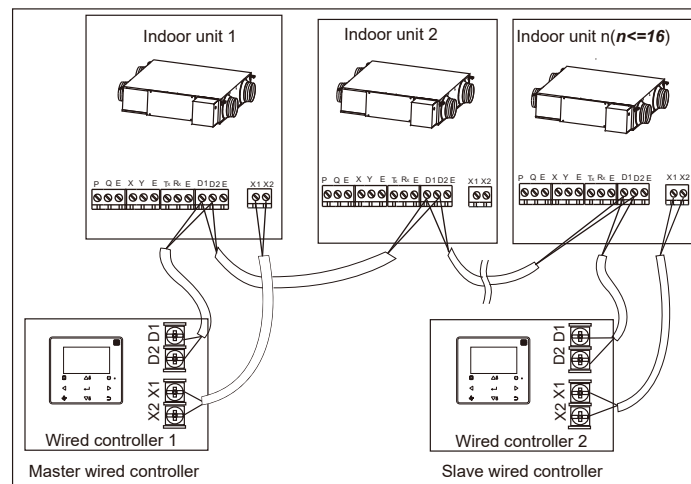

Fig. 4-5
- Use 1 wired controller to control multiple indoor units or 2 wired controllers (one master and one slave controller) to control multiple indoor units. The maximum number of connections is 16. (see Fig.4-5)